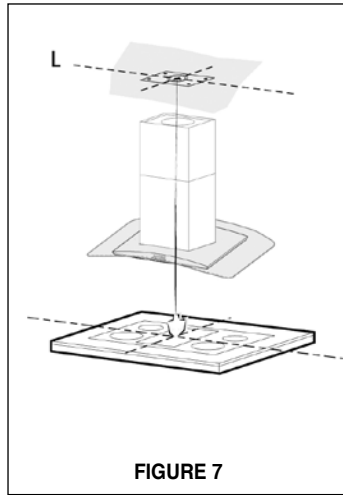

FIGURE 7
3. A template (L in FIGURE 7) for mounting the support is supplied in the carton with the support. Use this template to mark holes for support on the ceiling.
4. Determine and make necessary cuts for the ductwork. The duct opening is shown on the mounting template (L in FIGURE 7). Install ductwork before mounting the support.